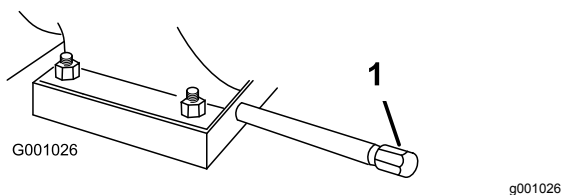

Figure 32
1. Clean the area around the oil-drain cap (Figure 32).